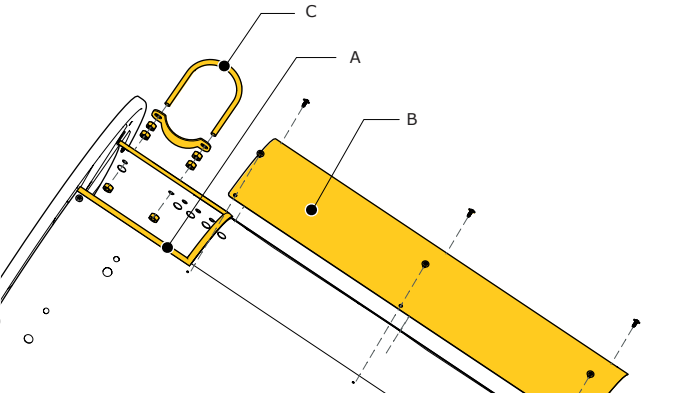

Fig. 4.1a Hose reel assembly
- To assemble the MER, complete the following steps referring to figures 4.1a & 4.1b:
- Remove the edge trim (A) and drum lid (B).
- Mount the MAP-Kit (F) to the outlet (D).
- Mount the hose on the MAP-Kit (F) by fastening the clamp (G).
- Bend the hose into a natural soft curve outwards. Fasten it using the U-clamp (C).
- Re-mount the drum lid (B).
- Re-mount the edge trim (A).